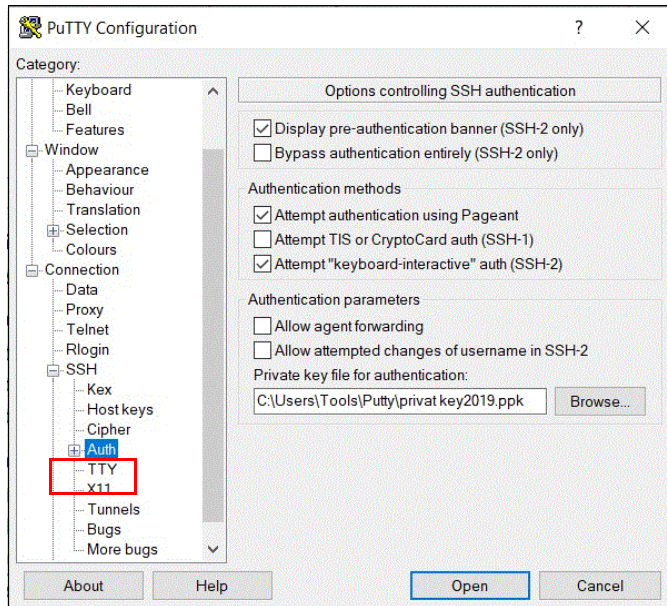

Figure C-10 SSH protocol Version 2
- In the Category window, on the left side of the PuTTY Configuration window (see Figure C-10), select **Connection** → **SSH** to open the PuTTY SSH Configuration window. In the SSH protocol version section, select **2**.